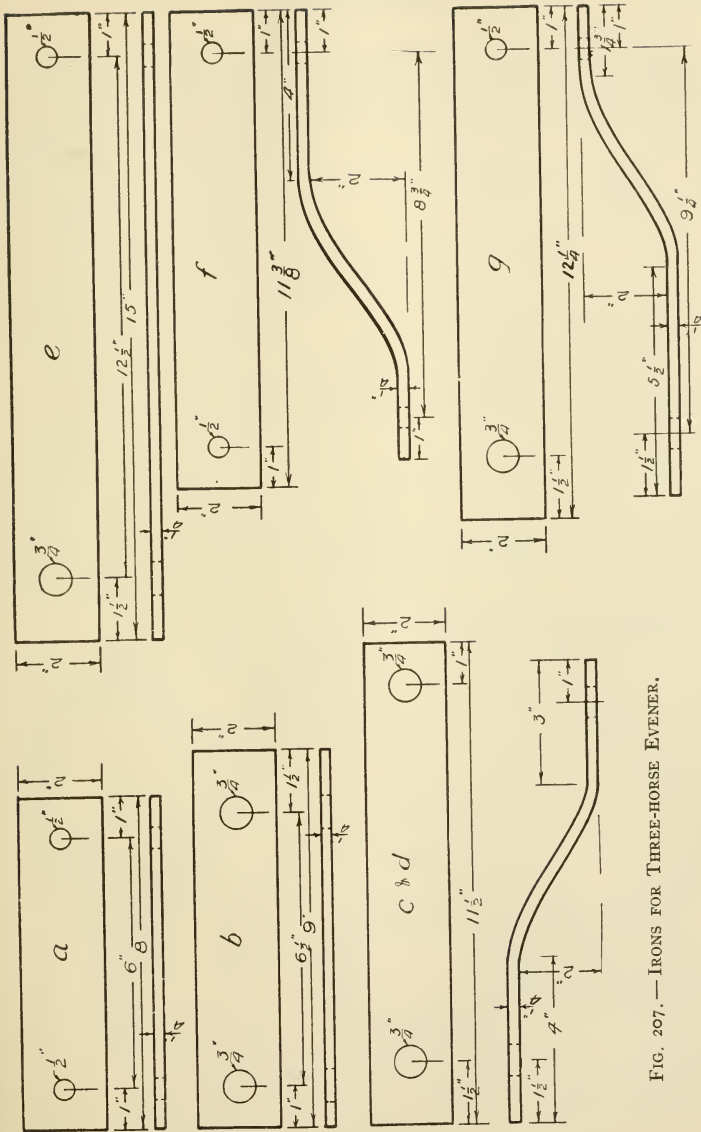

FIG. 207. — IRONS FOR THREE-HORSE EVENER.
1. The irons for the three-horse evener are $\frac{1}{4}$ " thick and 2" wide. Each of the four that connect the singletrees to the doubletree is represented by *a*, Fig. 207. They are 8" long. The holes, which are $\frac{1}{2}$ " in diameter, are 6" apart. The irons connecting the doubletree to one end of the evener are represented by *b*, *c*, and *d*. *b* is 9" long; and the holes, which are $\frac{3}{4}$ " in diameter, are $6\frac{1}{2}$ " apart. *c* and *d* are $11\frac{1}{2}$ " long; and the holes, which are $\frac{3}{4}$ " in diameter, are 9" apart. These two irons are bent in a reverse curve 4" from one end and 3" from the other end; and the amount of the offset is 2". Irons *e* and *f* and *g* connect one singletree to the other end of the evener. *e* is 15" long; and the holes are $12\frac{1}{2}$ " apart. One of them is $\frac{3}{4}$ " in diameter and the other is $\frac{1}{2}$ " in diameter. *f* is $11\frac{3}{8}$ " long; and the holes, both of which are $\frac{1}{2}$ " in diameter, are $9\frac{3}{8}$ " apart. This iron is bent in a reverse curve 2" from one end and 4" from the other end; and the offset is 2". *g* is $12\frac{1}{4}$ " long; and the holes, one of which is $\frac{3}{4}$ " in diameter and the other $\frac{1}{2}$ " in diameter, are $9\frac{3}{4}$ " apart. This is bent in a reverse curve $5\frac{1}{2}$ " from one end and $1\frac{3}{4}$ " from the other end; and offset is 2".